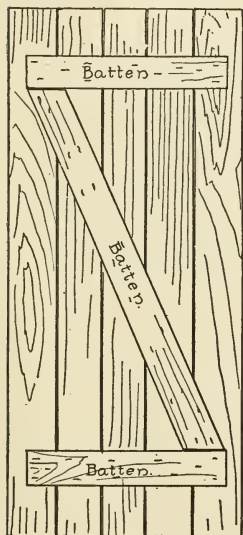

FIG. 189. — A Batten Door.
**Make a Batten Door**, fastening the boards together on the inside with battens as shown in Fig. 189, with the nails driven through from the outside face and clinched upon the battens. Hinge the door to the inside face of the jamb with strap-hinges, and either buy an iron latch for it or make the old-fashioned